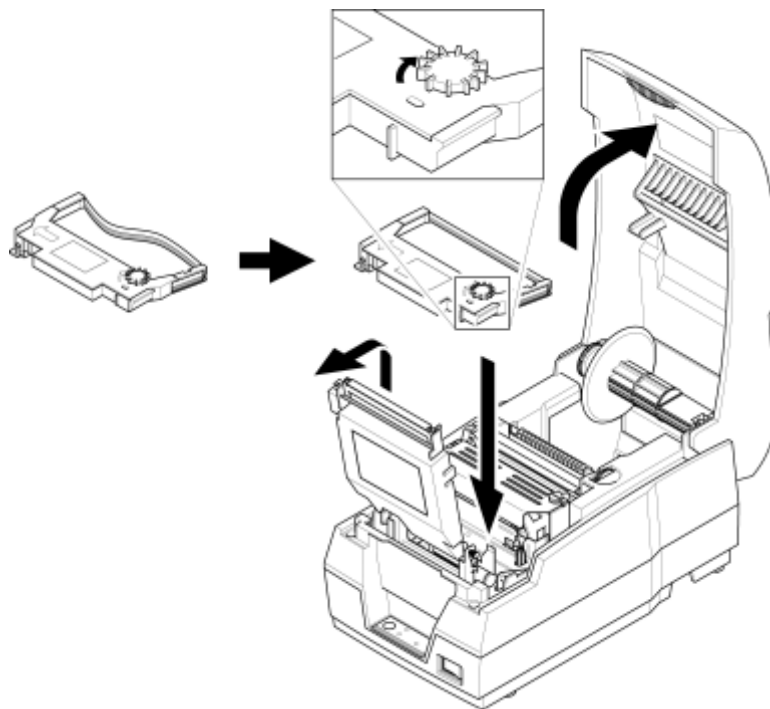

Figure 3-6. Installing Ribbon Cartridge
17. Install printer ribbon cartridge (see Figure 3-6).